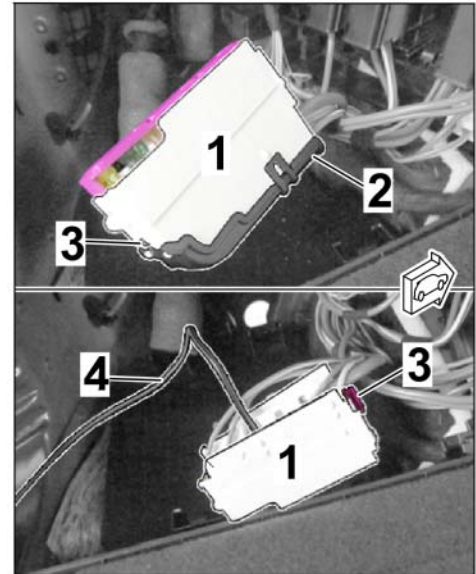

Figure 8
2.3.1 Remove fuse holder H (strip B – white) from the fuse box in the luggage compartment (⇒ *Workshop Manual '978409 Loosening and securing fuse box in the luggage compartment'* ⇒ *Figure 8-top-*).
2.3.2 Release fuse holder H (strip B – white) and connect the lines (RD/GN and RD/YE) as follows (⇒ *Figure 8-bottom-*):